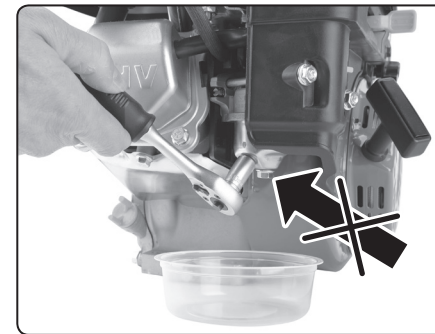

Fig. 13
2. **Screw out the carburettor mud bolt and drain any dirty material into a prepared container (see fig. 13).**